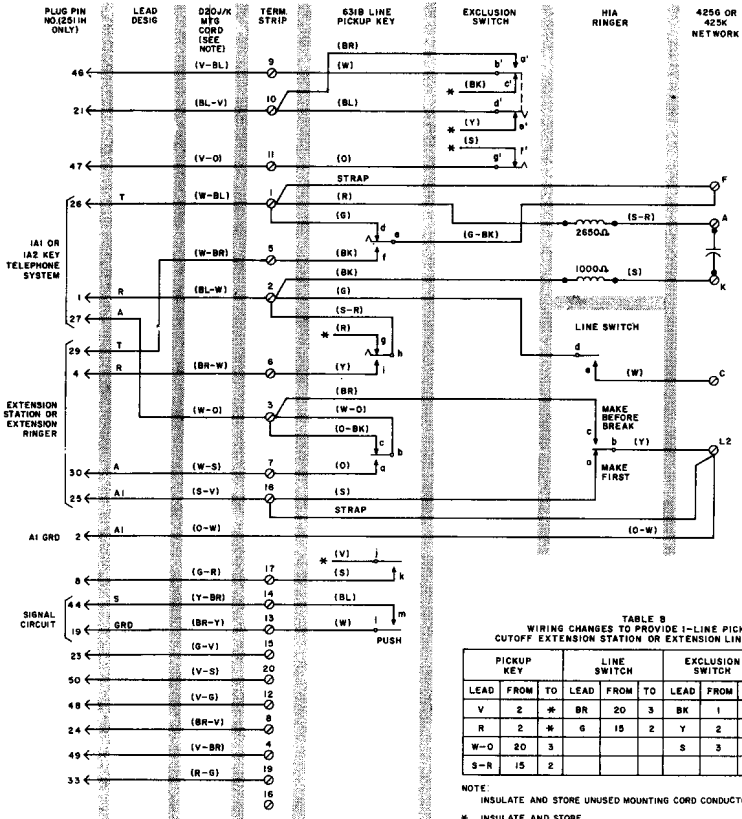

FIGURE 3. 2511F/H Telephone Set Connections, 1 Line Pickup, Cutoff Extension Station or Extension Line Ringer
- e. 2554**(BA)30M Telephone Set, Connections For 1A1 or 1A2 Key Telephone Systems—Figure 3.